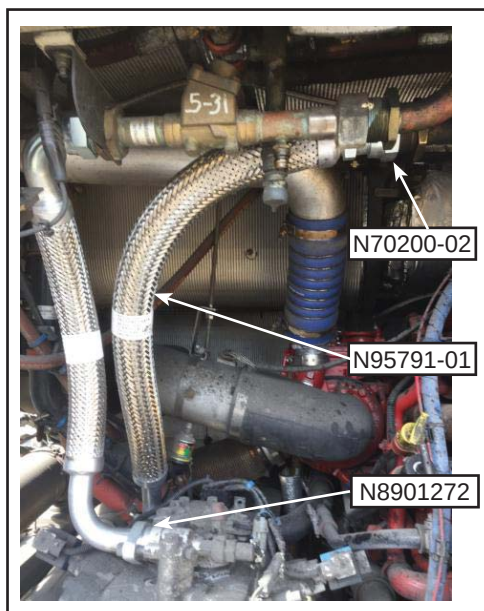

Figure 4 - N95791-01 Hose Installation
- 1.5. Install N95791-01 hose, N70200-02 O-ring and N8901272 gasket. See Figure 4. Tighten to specified torque. See Figure 3. Apply torque seal.